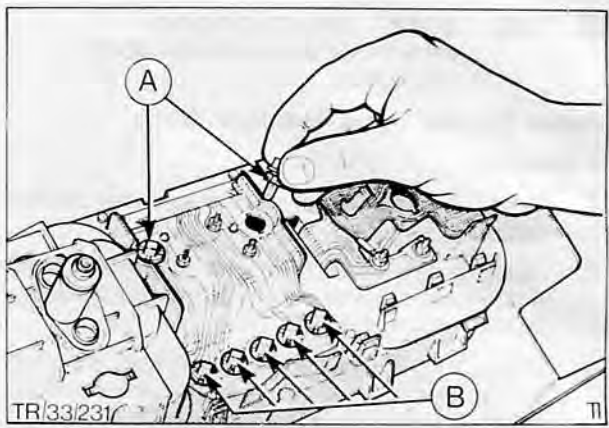

Fig. 55. Removing bulbs
1. Remove two clock illumination bulbs and holders, Fig. 55. Also remove five warning lamps.